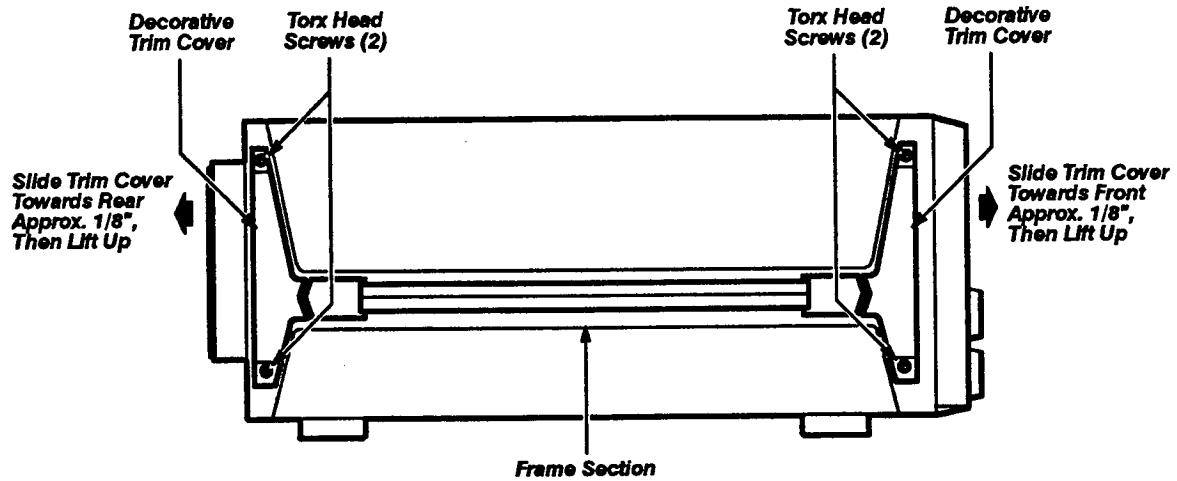

Figure 5: Trim and Frame Removal
- Step 10:** Replace the following EPROMs on the Memory circuit board A18 with the new EPROMs provided in this kit. Refer to Figure 5, for component locations.
Do not lift trim covers to remove them; doing so will break the trim covers. There is a clip on the inside of the trim cover which slides over the end of the side frame section. To remove the trim covers properly and prevent breakage of these covers, move each cover towards the end of the oscilloscope where it is located. (The front cover moves forward and the rear moves backward). Moving the clip about 1/8-inch will release the cover. Then, the trim cover can be removed from the oscilloscope. Refer to Figure 5, Trim and Frame removal.